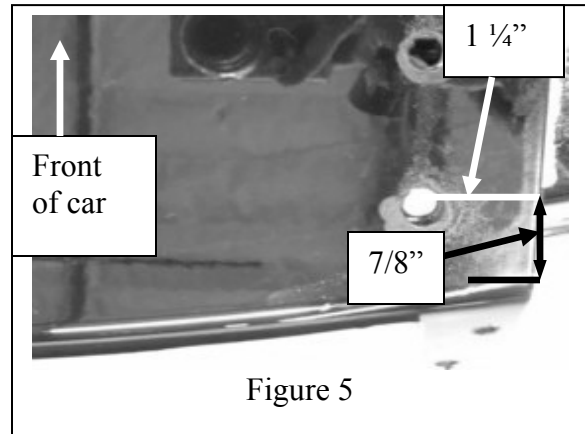

Figure 5
5. Mark each rearward, outboard hole location for the wing studs with a center punch. Mark the passenger side hole (hole "B" in Figure 4) 1 ¼" in from the passenger side outboard edge of the deck lid, and 7/8" forward from the outboard rear corner. (Figure 5)
8. Place a dab of torque seal on the bottom of each stud in the wing. Using two people to hold the wing, line up the outboard rearward holes in the wing (Figure 3) with the marked rearward outboard hole locations in the deck lid ("B" in Figure 4; see also Figures 5,6). The leads of the wing go toward the front of the car; see the photo on the cover page of this manual, as well Figure 3, to properly orient the wing.